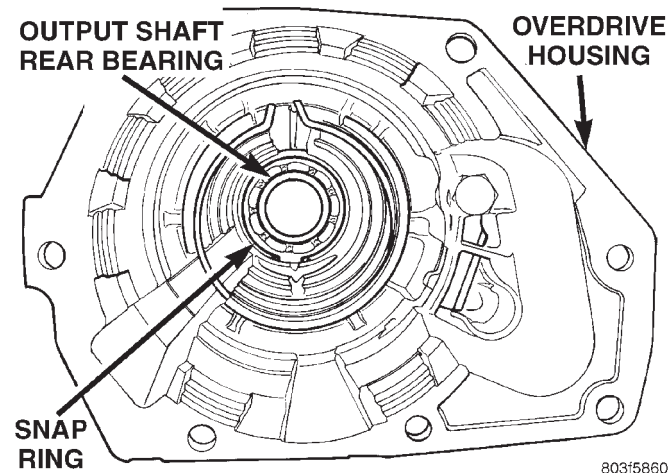

Fig. 36 Output Shaft Rear Bearing
(3) Remove snap ring holding output shaft rear bearing into overdrive housing (Fig. 36).
(4) Using a suitable driver inserted through the rear end of housing, drive bearing from housing.
(1) Place replacement bearing in position in housing.
(2) Using a suitable driver, drive bearing into housing until the snap ring groove is visible.
(3) Install snap ring to hold bearing into housing (Fig. 36).
(4) Install overdrive geartrain into housing.
(5) Install overdrive unit in vehicle.